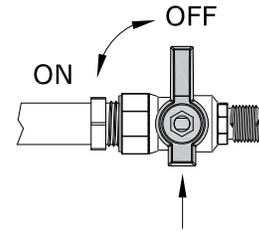

Figure 8.8 - Step 1
1. Disconnect electrical power. Locate the main shut-off valve upstream of the appliance connector and close valve. Figure 8.8.